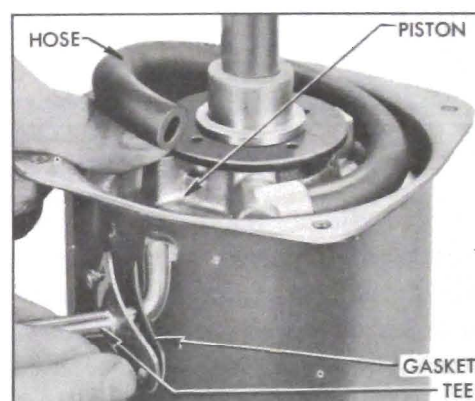

Figure 9-18—Removing Vacuum Tee
4. Remove housing cover screws, cover, and gasket. While holding power piston down, disconnect vacuum hose from vacuum tee and remove tee and gasket from housing. See figure 9-18. *Slowly* release power piston to control the pressure of piston return springs as piston and attached parts emerge from housing. Make sure that lip of leather piston cup does not catch in holes in housing.